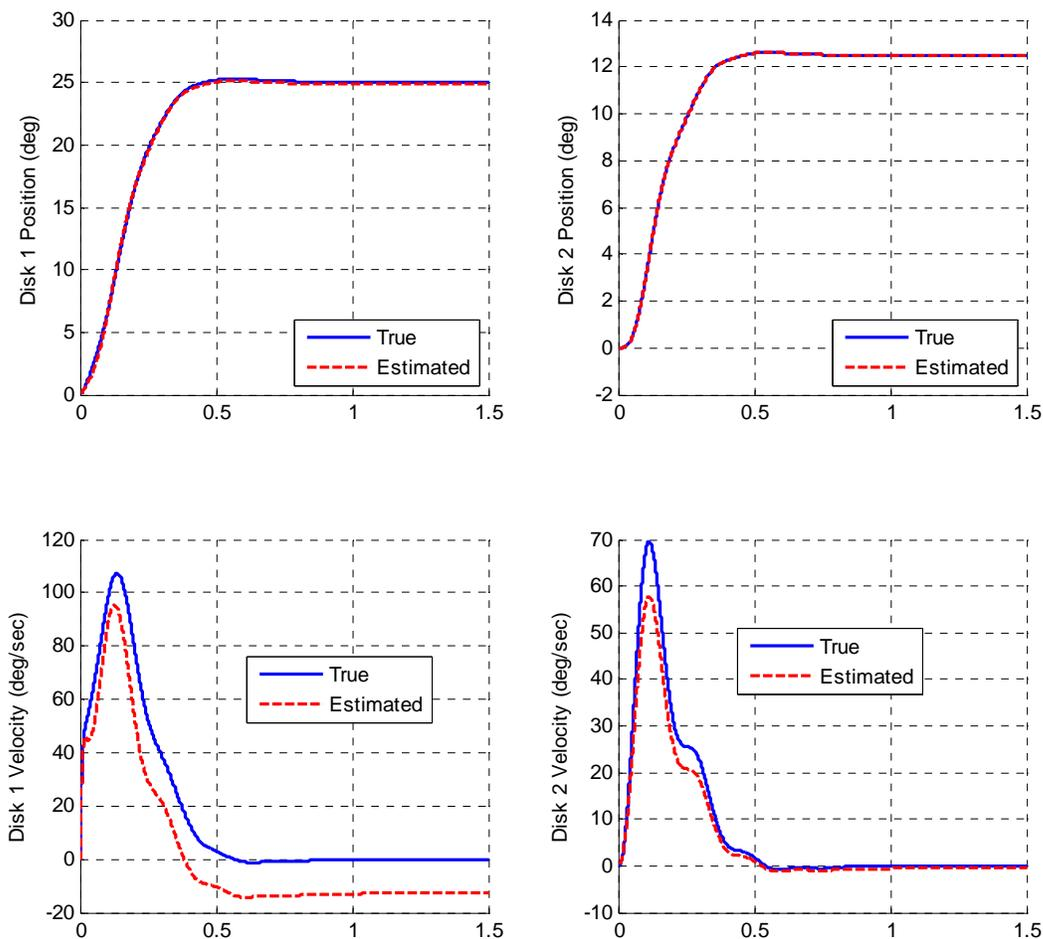

Figure 14. Full order observer for a 2 dof system with a bad model (problem 4d).
d) Now we will try and observe what happens when there is a difference between our model and the real system. Modify the observer system in the model (.mdl) file, so the A matrix is called AA. Just before you run the model file, enter the command $AA = A*1.2$. Place the state feedback poles at twice their original values (at $2*p$), and change the observer poles to be ten times their original values ($10*p$). You should get results like those in Figure 14. Note that if we do not change the pole locations, we will get an unstable system (just try it!)